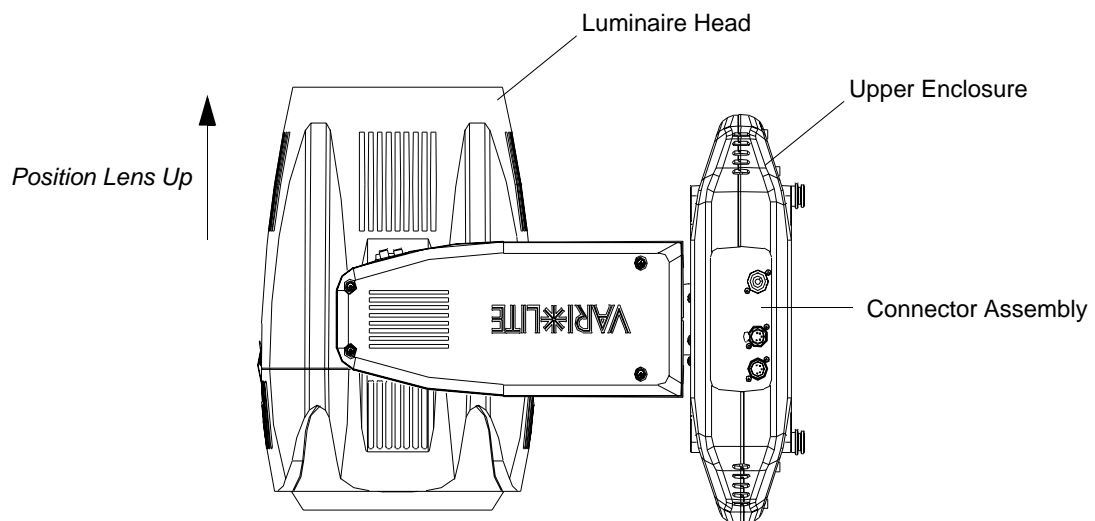

Figure 2-43: VLX Wash Luminaire
- Step 2. Carefully lay luminaire on flat, steady surface to have access to bottom cover of upper enclosure and connector assembly side is up. Be sure to rotate head as shown in Figure 2-43.